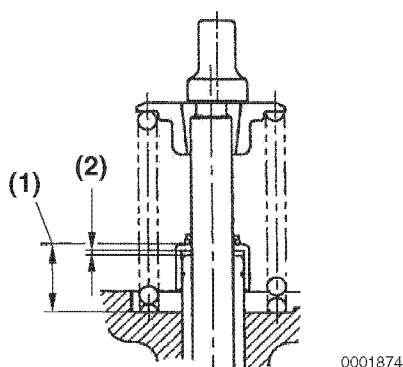

Figure 6-65
2. Measure the distance (**Figure 6-65, (1)**) from the cylinder head to the valve stem seal to ensure proper clearance (**Figure 6-65, (2)**) between the guide and seal. See *Intake / Exhaust Valve and Guide on page 6-7.*